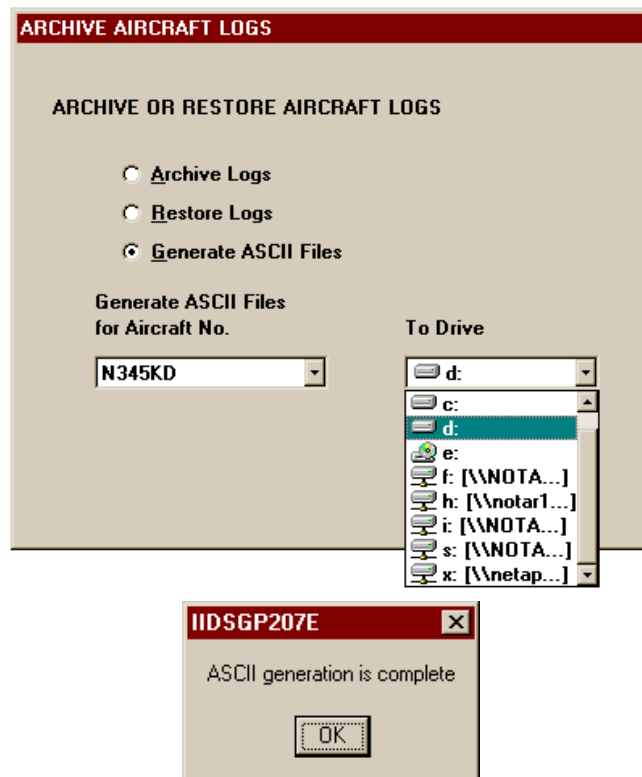
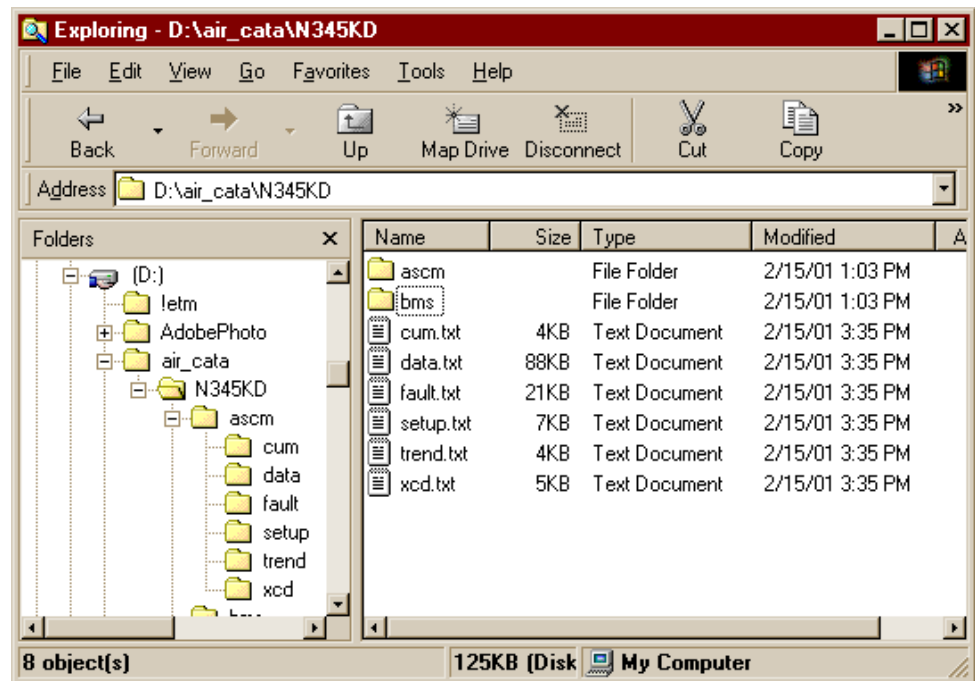

Figure 51. Generate ASCII Aircraft Logs Screens
Figure 52. Generated ASCII Files Location
3. In the Archive Or Restore Aircraft Logs Screen select "**Generate ASCII Files**" (refer to Figure 51). . The generated ASCII files will be written to the target disk in the following directory(refer to Figure 52):